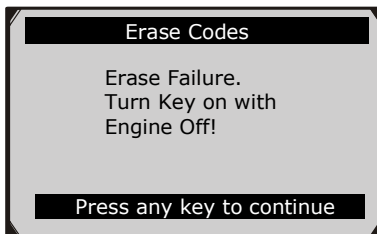

Figure 6.13
- If the codes are not cleared, then an “**Erase Failure. Turn Key on with Engine off!**” message appears (Figure 6.13). Press any button to return to the previous menu.